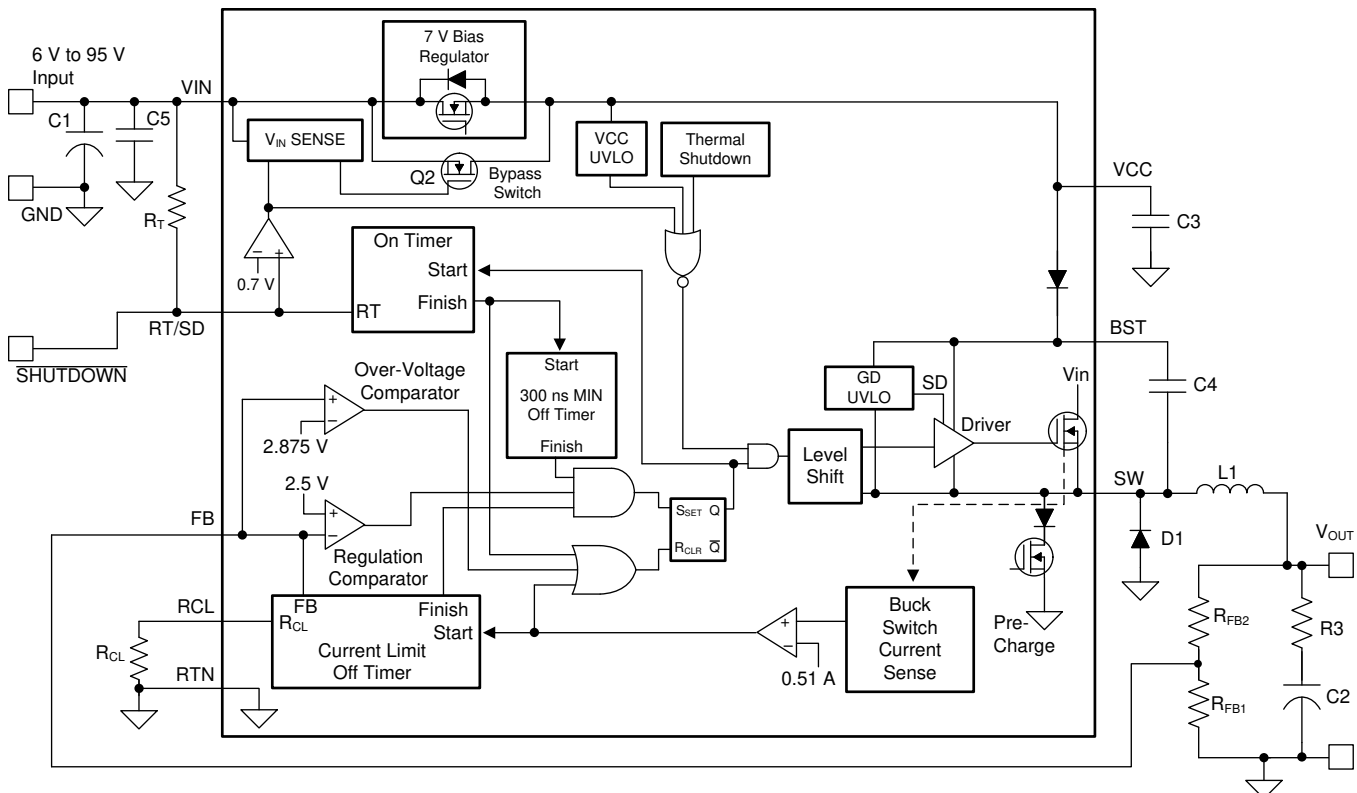

图 50. Functional Block Diagram
The output voltage ( $V_{OUT}$ ) is programmed by two external resistors as shown in 图 50. The regulation point can be calculated with 公式 7.
The LM5008A regulates the output voltage based on ripple voltage at the feedback input, requiring a minimum amount of ESR for the output capacitor C2. A minimum of 25 mV to 50 mV of ripple voltage at the feedback pin (FB) is required for the LM5008A. In cases where the capacitor ESR is too small, additional series resistance may be required (R3 in the 图 50).
The high voltage bias regulator is integrated within the LM5008A. The input pin ( $V_{IN}$ ) can be connected directly to line voltages between 6 V and 95 V, with transient capability to 100 V. Referring to the 图 50, when  $V_{IN}$  is between 6 V and the bypass threshold (nominally 8.5 V), the bypass switch (Q2) is on, and  $V_{CC}$  tracks  $V_{IN}$  within 100 mV to 150 mV. The bypass switch on-resistance is approximately 100  $\Omega$ , with inherent current limiting at approximately 100 mA. When  $V_{IN}$  is above the bypass threshold Q2 is turned off, and  $V_{CC}$  is regulated at 7 V. The  $V_{CC}$  regulator output current is limited at approximately 9.2 mA. When the LM5008A is shut down using the RT/SD pin, the  $V_{CC}$  bypass switch is shut off regardless of the voltage at  $V_{IN}$ .